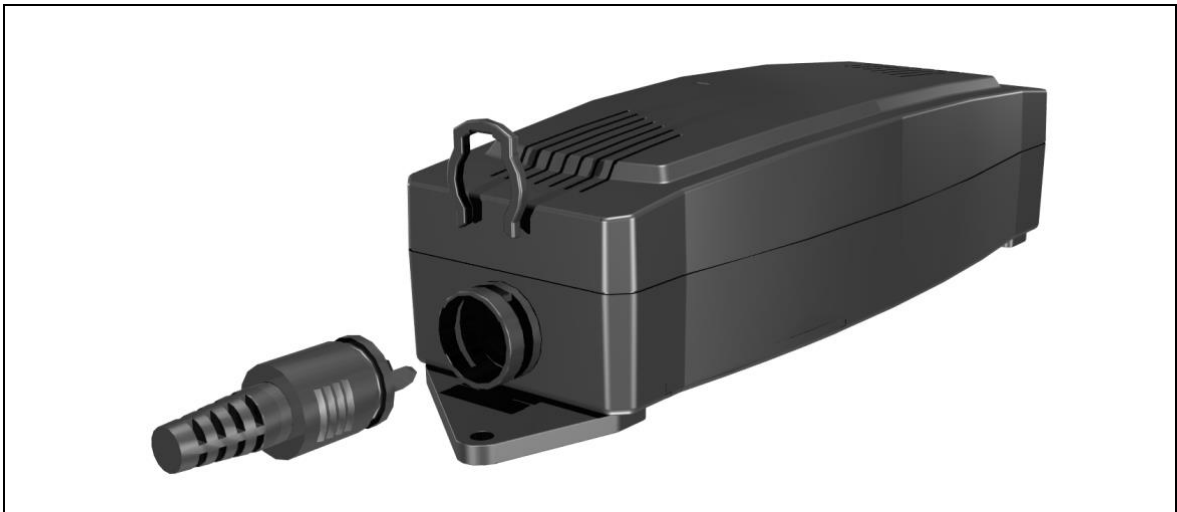

Figure 17 Opening the shield cover
- 2 Open the shield cover (refer to Figure 17).